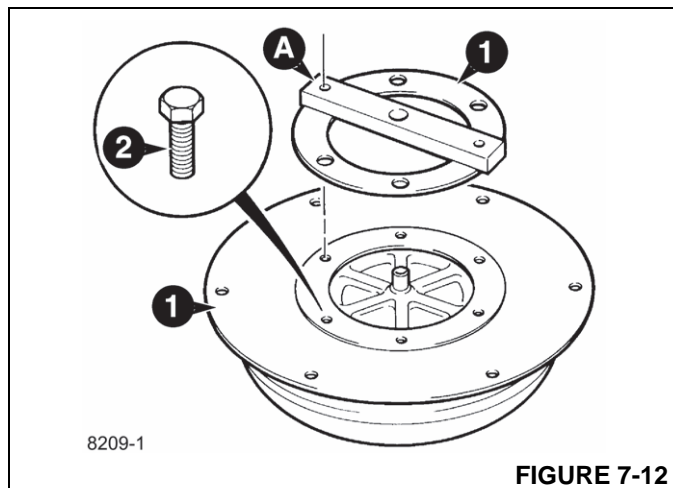

FIGURE 7-12
2. Place the torque converter alignment tool **A** (Figure 7-12) over the torque converter spigot, making sure that the tool locates in two of the converter bolt holes as shown. It is important to note that the converter drive tube must be protected against damage or contamination at all times.